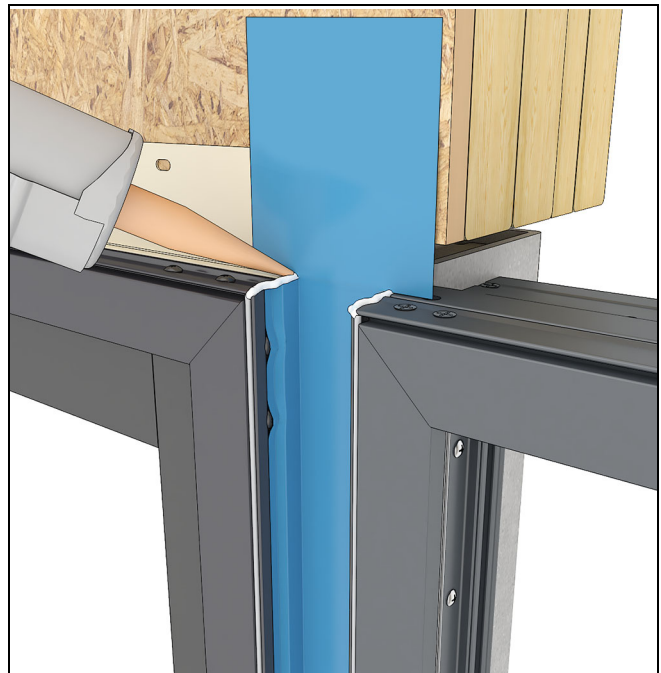

Figure 6
5. Apply a small bead of sealant over the end of the frame kerf weatherstrip and back to the toward the sheathing. See Figure 6.